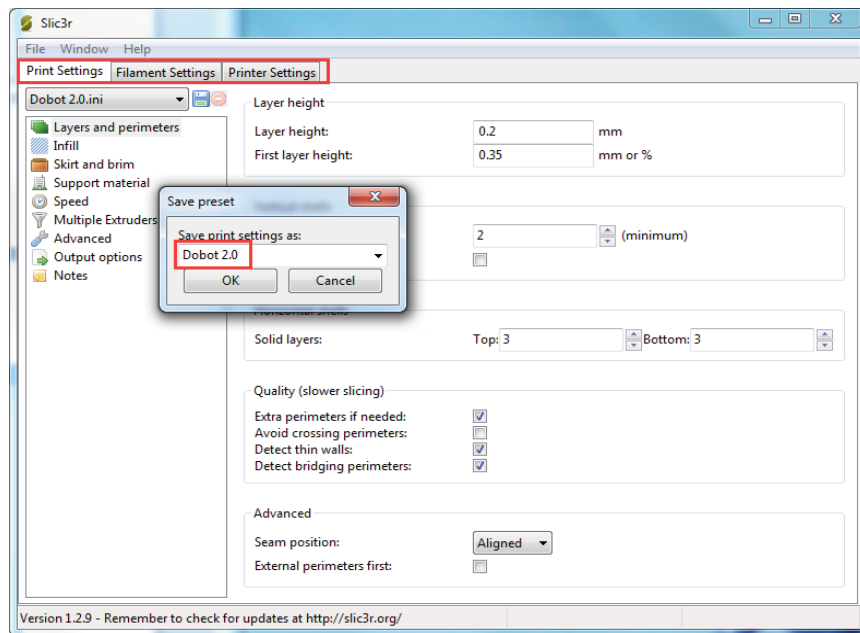

Figure 5.141 Save configuration file
5. Save the **Printing Settings**, **Filament Settings** and **Printer Settings** tabs respectively after importing configuration sample, as shown in Figure 5.141.